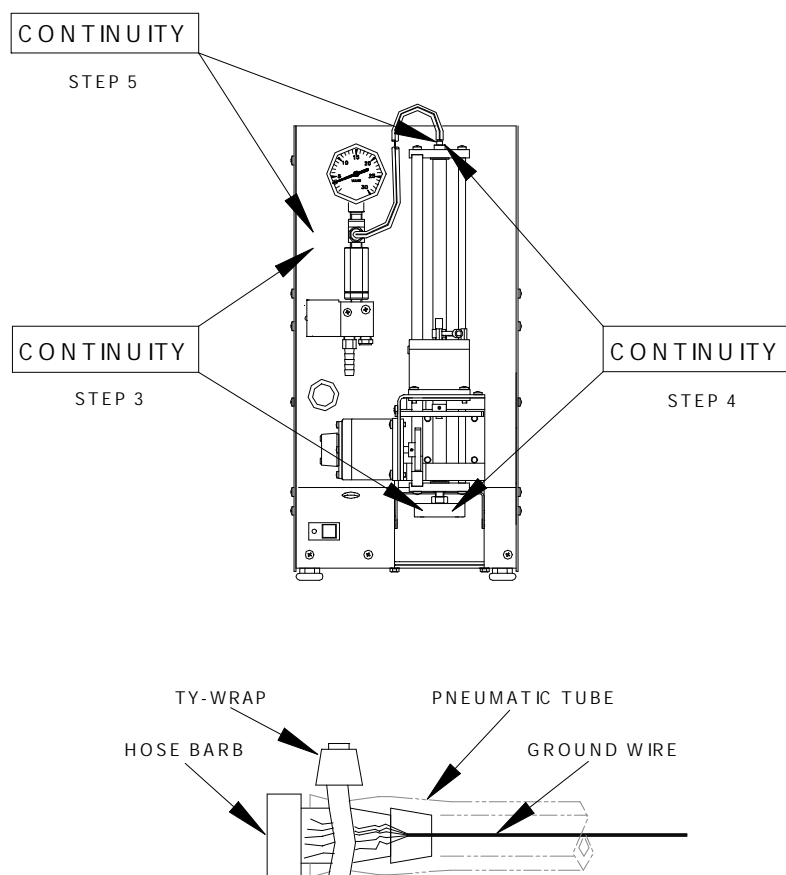

Figure 1
4. Check for continuity between the applicator head and the machine frame (See figure 1). If continuity does not exist go to step 5.
5. Check for continuity between the applicator head and the hose barb on the top of the pinion wire (See figure 1). If continuity exists, proceed to step 6. If continuity does not exist, install KOP 83047200A and proceed to step 6.
6. Check for continuity between the machine frame and the hose barb at the top of the pinion wire (See figure 1). If there is no continuity, correctly install the ground wire from the vacuum gauge through the vacuum hose to the hose barb on the top of the pinion wire (See figure 1).